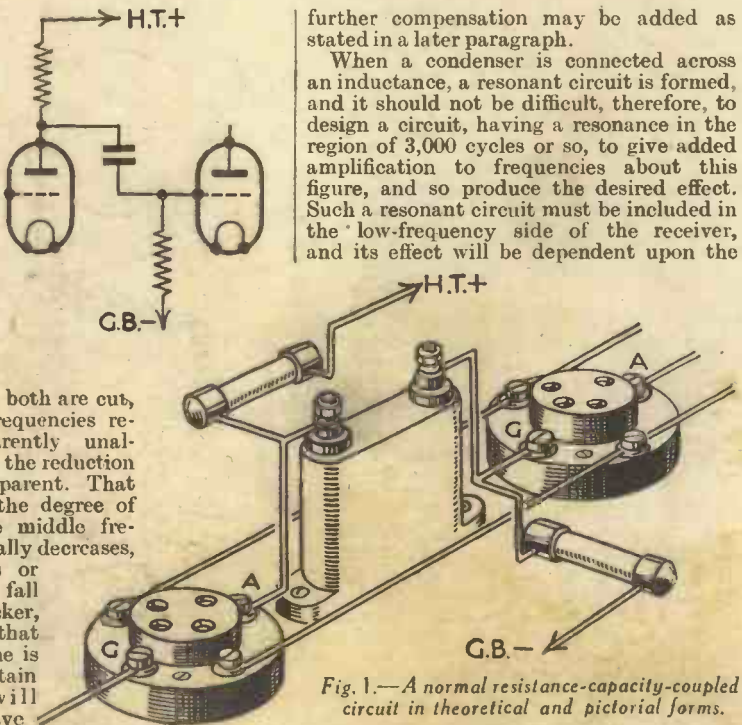

Fig. 1.—A normal resistance-capacity-coupled circuit in theoretical and pictorial forms.
L.F. couplings as well as upon the valve with which it is associated. Where a quality receiver, employing resistance-capacity coupling, is in use, the necessary inductance may be connected in series with the anode resistance, a small parallel condenser completing the tone-control circuit. Fig. 1 illustrates the arrangement, and the choke should have some value between .3 henries and 1 henry. Some experiment may be necessary to find the most suitable value for the particular combination in use.